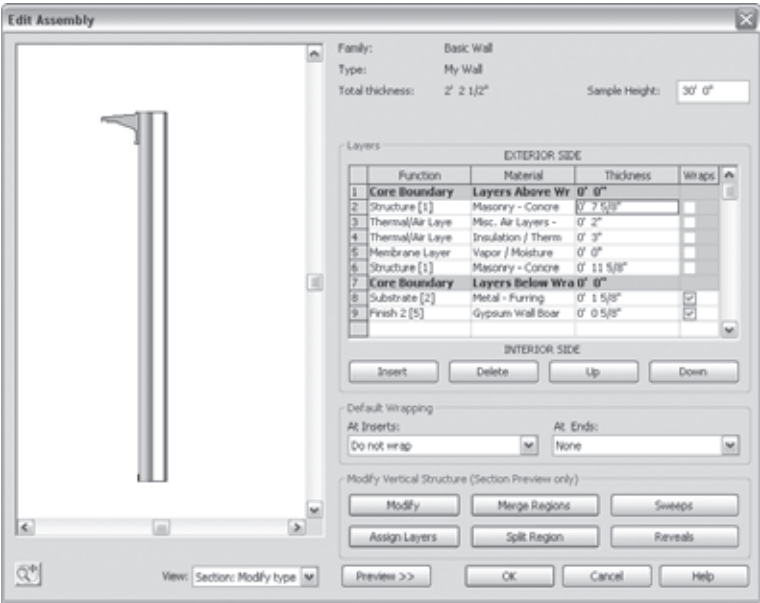

Figure 6.20
9. Click OK. Figure 6.20 shows the profiles attached to the top and bottom of the wall.